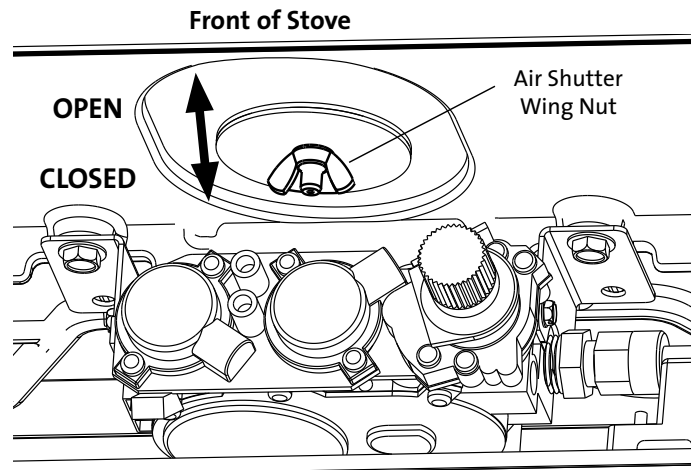

Figure 14.1.
1. Open the Controls Access Door and loosen the wing nut shown in fig. 14.1. Slide the wing nut stud forward toward yourself to open the air shutter and back to provide less air. Before making any adjustments, start at the mid-point of the total range of adjustment.